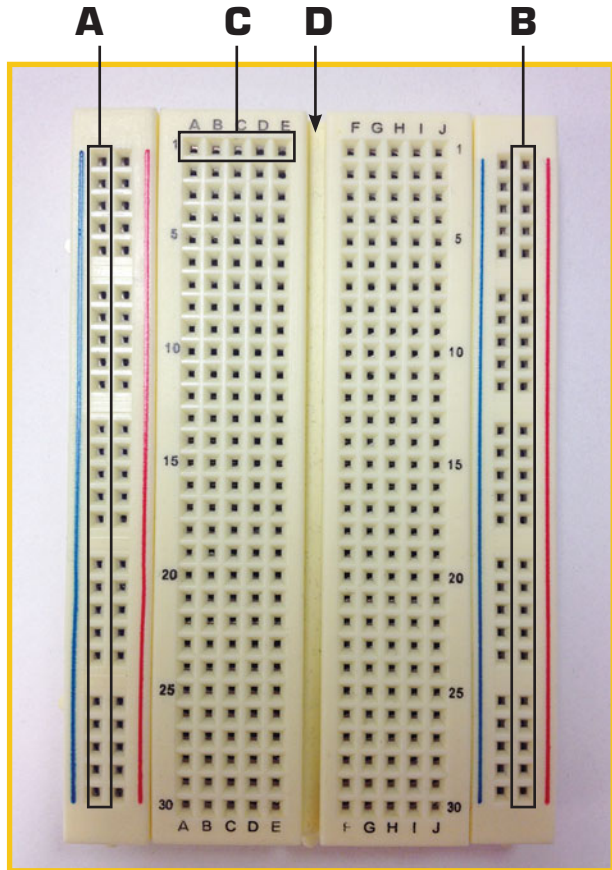

FIGURE 4.7 A solderless breadboard is a convenient prototyping platform.
As you can see in Figure 4.7, the breadboard consists of a grid of wire holes. What you can't see is that conductors are hidden in the plastic, so some of the rows of holes are linked together and some aren't. So, without ado, let's examine a breadboard's architecture:
- **C. Terminal strips**—These rows of holes are connected in groups of five, as marked in Figure 4.7. The various holes are given letters and numbers to help you organize your circuits.